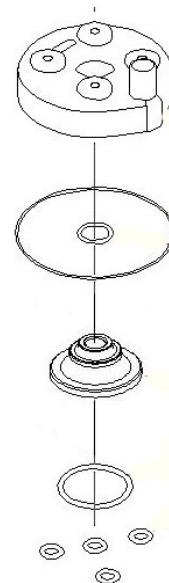

Figure 33
15. Install O-RINGS as shown in figure 33.